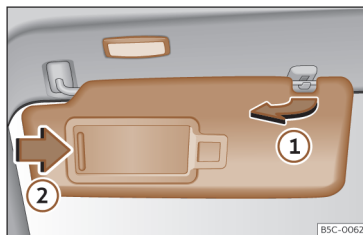

Fig. 114 Sun visor
- The sun visor can be pulled out of its mounting and turned towards the door >>> **Fig. 114** ①.